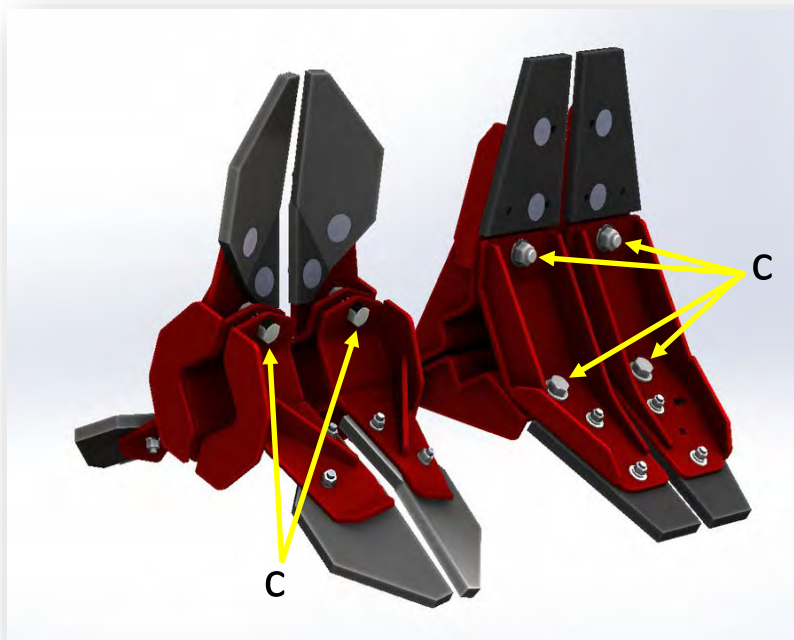

Figure 7-18: Rock Paddle and Solid Paddle Adjustment
1. Loosen lock nuts (C), shown in Figure 7-18, on the paddle mounts.
3. Tighten lock nuts (C).